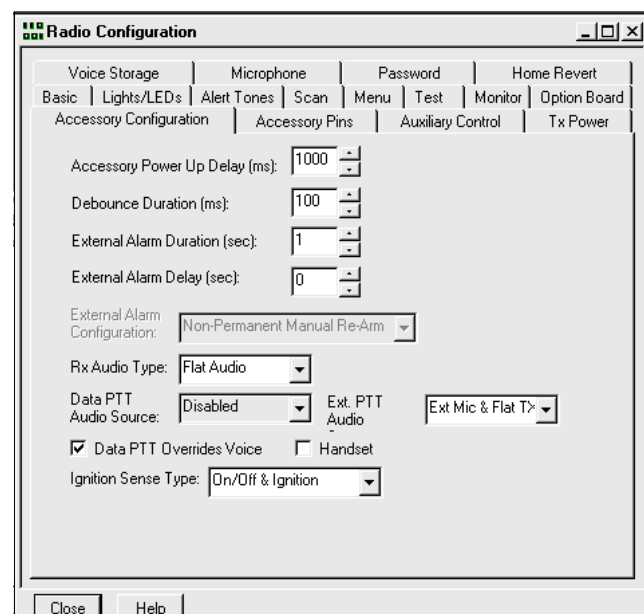

Figure 9-4. Radio Configuration, Accessory Configuration, Transmit Radio
5. Click the “Ignition Sense Type:” dropdown arrow button. Select “On/Off & Ignition”. Your screen should appear similar to Figure 9-4.